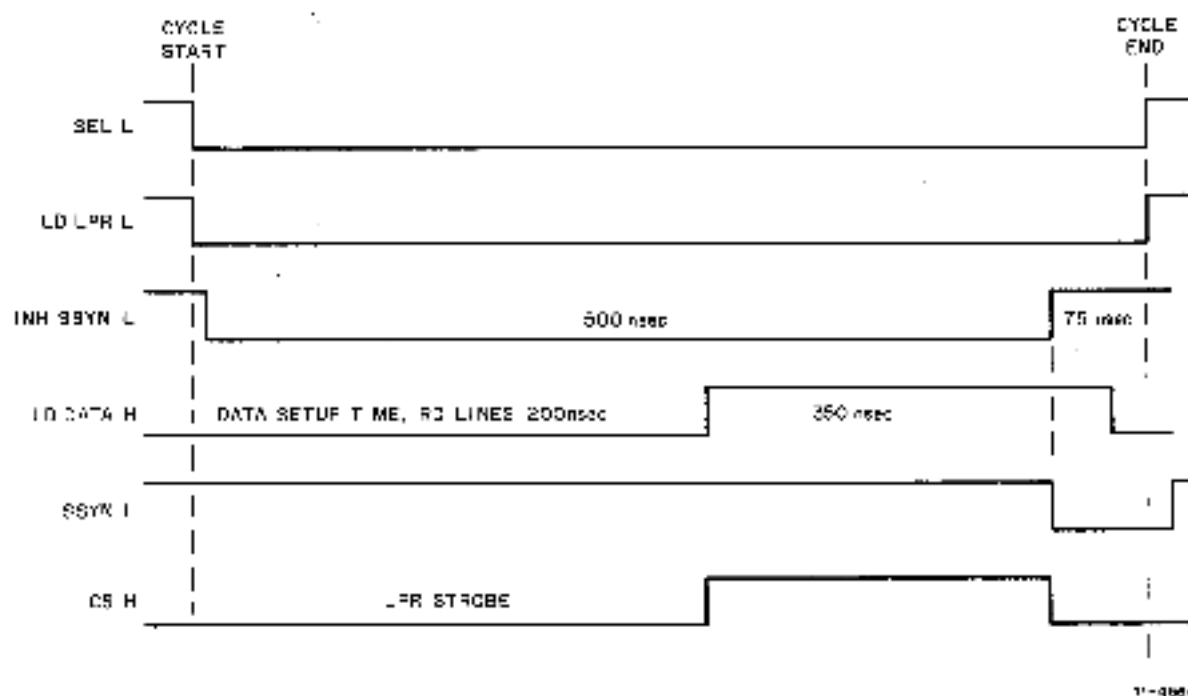

Figure 4-7 Line Parameter Loading
Received address lines RA1 and RA2, and control line RC1 are sent to the output data multiplexer (refer to Paragraph 4.2.3) to select the register to be loaded onto the Unibus during a read (DATI) operation. Receipt of MSYN and bits A(17:03) from the Unibus and subsequent assertion of SEL causes generation of SSYN and LDATA. SSYN is the DZ11 response to MSYN, and occurs 100 nanoseconds after receipt of MSYN. The delayed response is produced by the network R12, R13, and C93. However, when the LPR is accessed, a 500-nanosecond INH SSYN pulse on one input of E72 is used to prevent SSYN from being put on the Unibus. The LDATA pulse (delayed an additional 100 nanoseconds) is used to generate a strobe signal for the LPR. Figure 4-7 shows the timing for loading the LPR. The delays and inhibit signals allow proper data "setup" time before strobing the line parameters. The BUS INIT signal is also received (at E70) and used to clear the DTR register and generate a device reset pulse.
The Line Parameter Register (LPR) is the write-only segment of Device Register 2 (Figure 4-18). The LPR contains various line parameters such as line number, character length, stop code, parity, DZ11 baud rate, and a receiver-on bit. The bits 13-15 are not used. The LD LPR signal is generated by the address select logic and fed to a 9602 one-shot (500 nanoseconds) that drives E62, an eight-bit addressable latch, and inhibits SSYN from being asserted on the Unibus. The latch is open and the LDATA L signal on pin 13 is gated to the proper UART, selected by RD(2:0) on pins 1, 2, and 3. This is the Control Strobe (CS) signal that loads the line parameter data for that line (e.g., character length, stop bits, and parity). The CS signal occurs approximately midway into the Inhibit SSYN signal; this allows proper data set-up time for the UART inputs. Refer to Figure 4-7 for the timing of the CS signal.